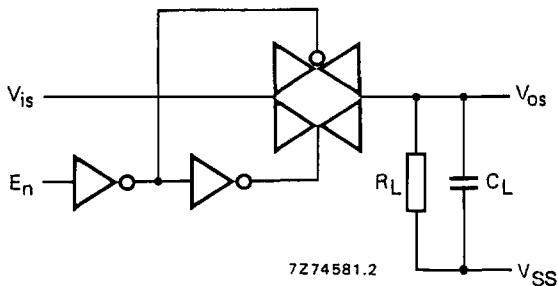

Fig. 6.
1. $R_L = 10 \text{ k}\Omega$ to V_{SS} ; $C_L = 50 \text{ pF}$ to V_{SS} ; $E_n = V_{DD}$; $V_{is} = V_{DD}$ (square-wave); see Figs 6 and 10.
$V_{is} = V_{SS}$ and R_L to V_{DD} for t_{PLZ} and t_{PZL} ; see Figs 6 and 11.
see Fig. 6.